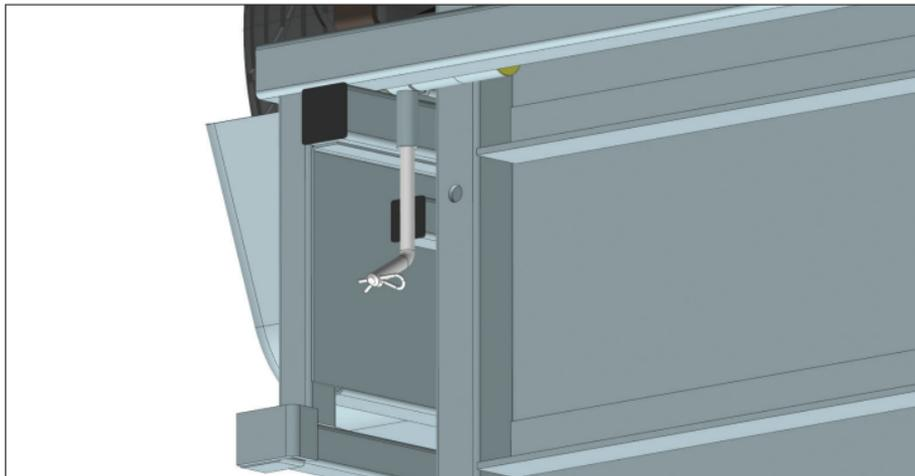

Figure 11: Storage location for hitch pins when in the locked position
- 3.6. Tip the trailer onto the stops of the rear section. This removes the weight of the trailer from the tongue making it easier to remove the tongue pin. Fig. 11